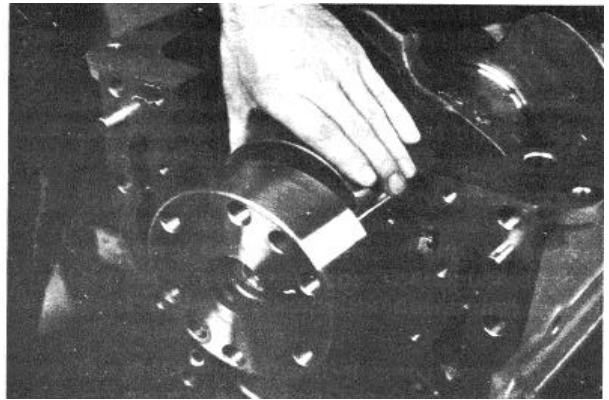

Fig. 14-5 (N114244). Install The Lower Bearing Shells.
7. Apply a coat of clean lubricating oil to the bearing surfaces of the crankshaft and to the lower bearing shells. Align the bearing shells with the dowel rings. Then, push on the side of the shell opposite the dowel ring to install the shell, Fig. 14-5.